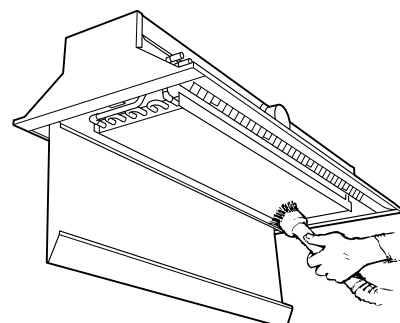

FIGURE 16
- 3) Vacuum the coil with a vacuum brush attachment every 5 to 10 years, or as needed. (See **FIGURE 16**)